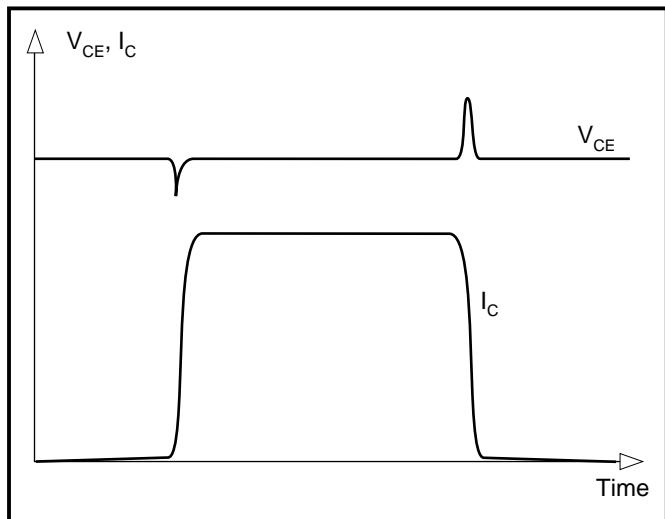

Fig. 3 Typical  $I_c$  and  $V_{ce}$  waveforms of IGBT being switched into a short circuit
- i) When a device is switched into an already existing short circuit (see fig 3 for typical waveforms).